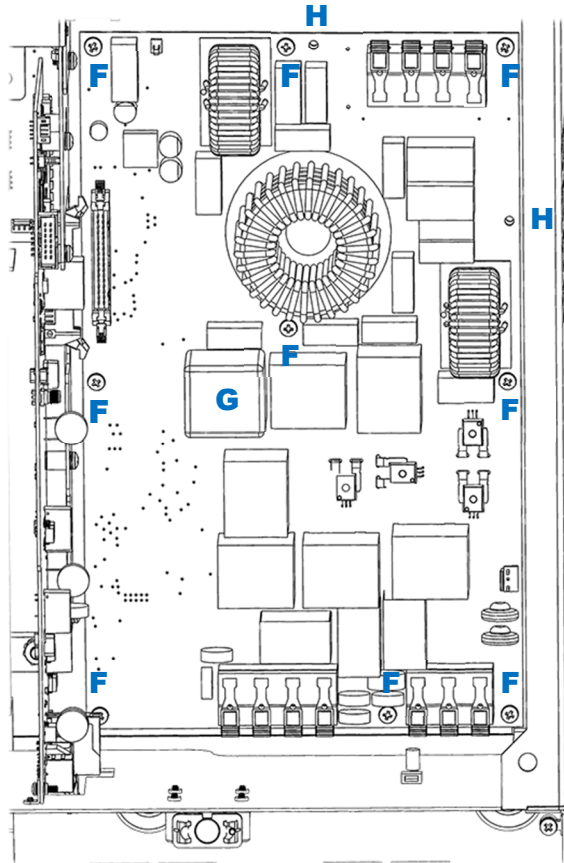

Figure 46 Dismounting AC Board
- Using a #2 Phillips screwdriver, remove 9 machine screws **F** that secure the AC board in place. See Figure 46.